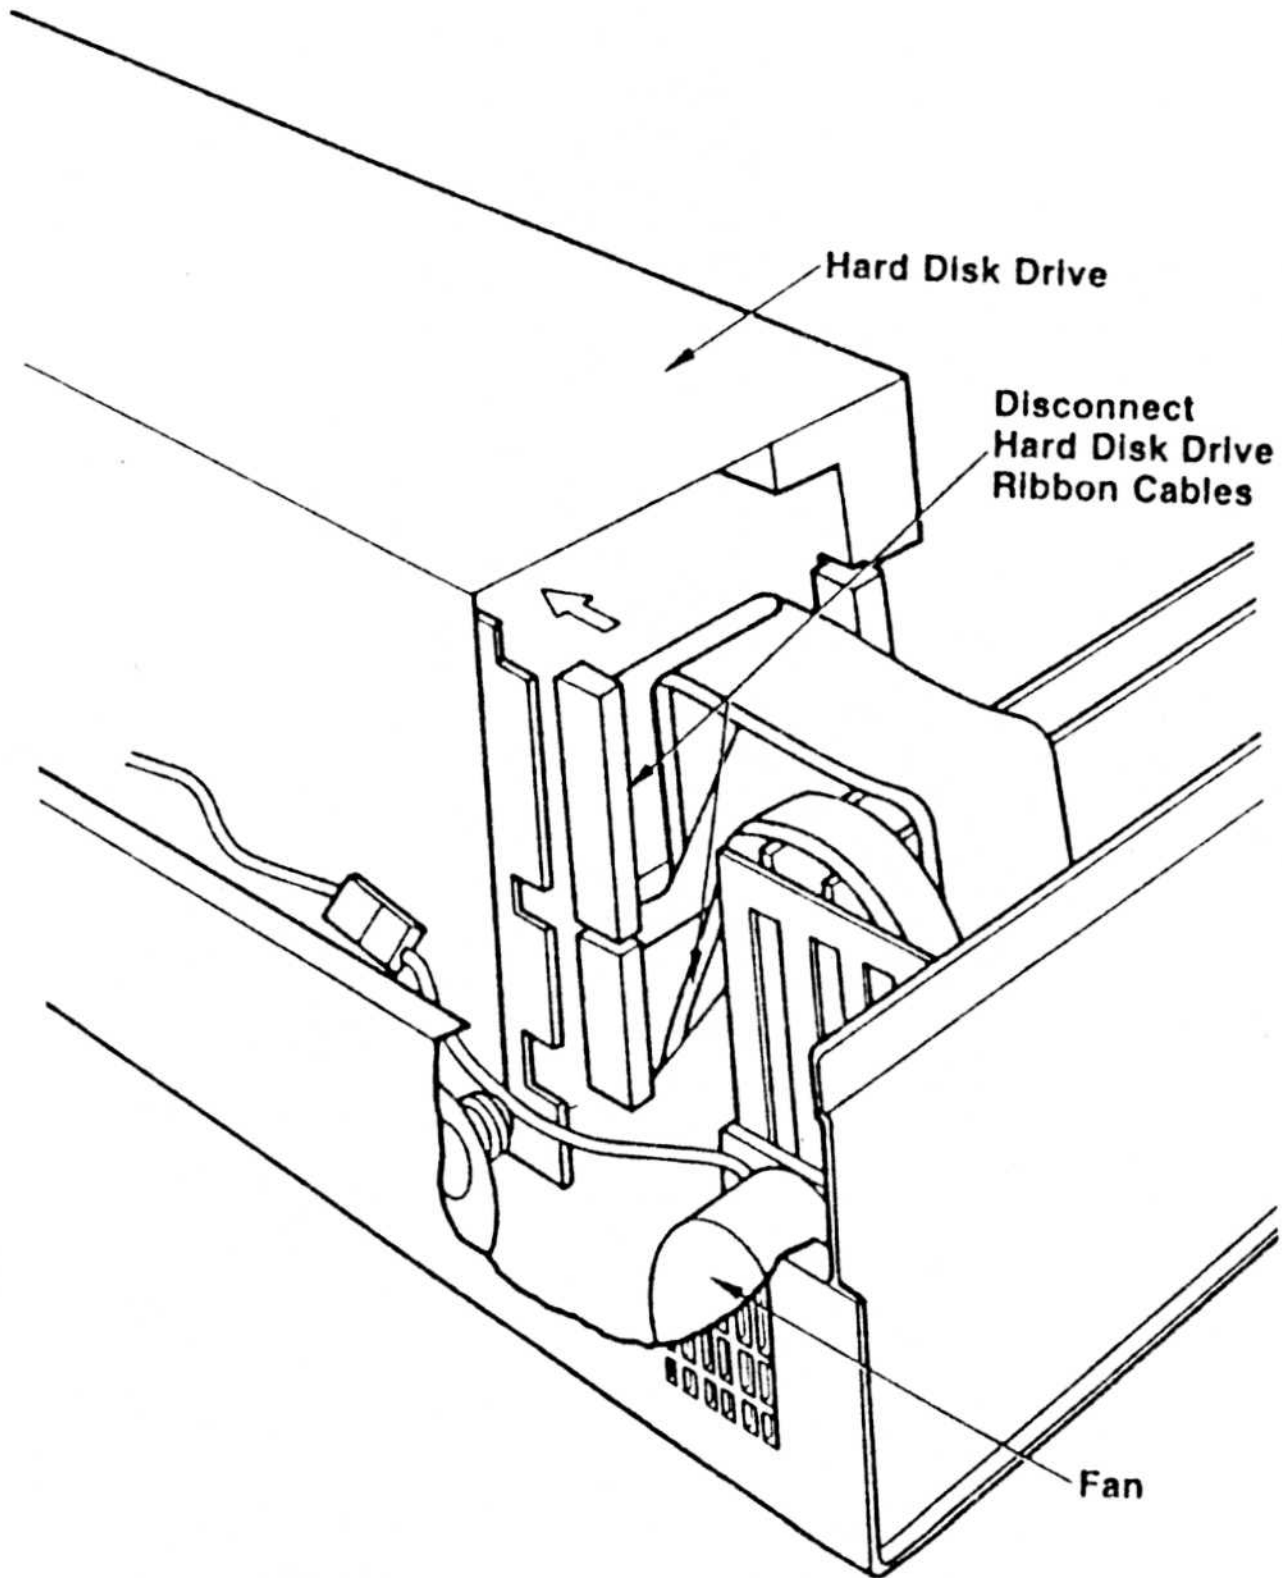

FIGURE 11: PC SPIRIT-XL HARD DISK CONNECTIONS
- STEP 8** If your Spirit has a hard disk, disconnect the two ribbon cables from the hard disk. Refer to Figure 11.
- STEP 24** If your Spirit has a hard disk, reconnect the two ribbon cables to the hard disk controller board. Make sure the red edge on the ribbon cables are on the side nearest the main board. Refer to Figure 11.